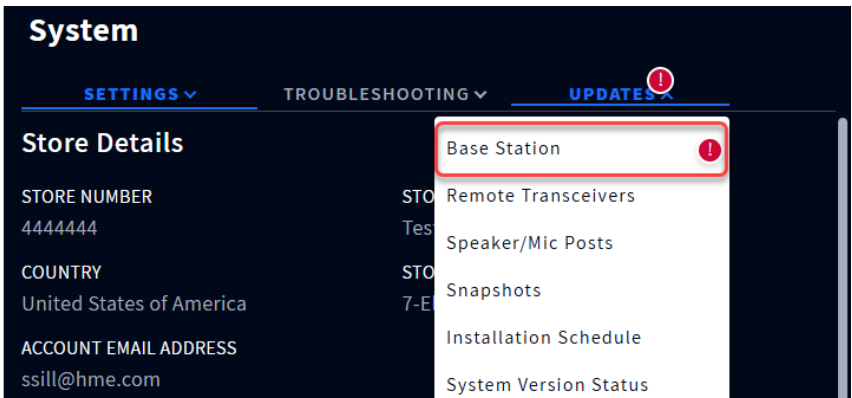

Fig. 15.10
2. Tap on the UPDATES tab. In this example, the Base Station option requires attention. See Fig. 15.10.
3. Select Base Station from the drop-down list (Fig. 15.10).